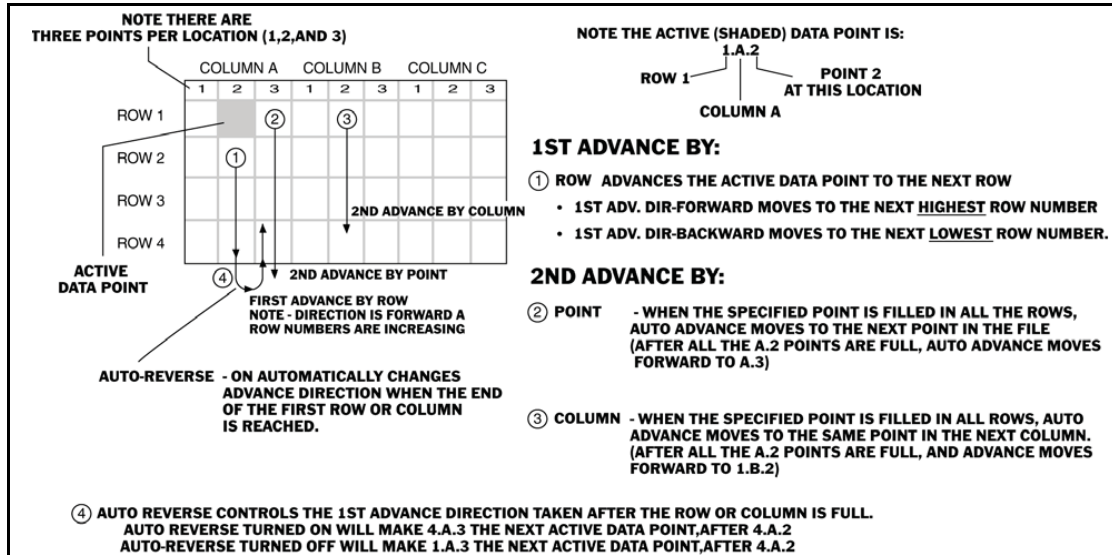

Figure 30: Data Entry in the Grid
5. Scroll to AUTO REVERSE (shown in Figure 30 below). Select ON or OFF.